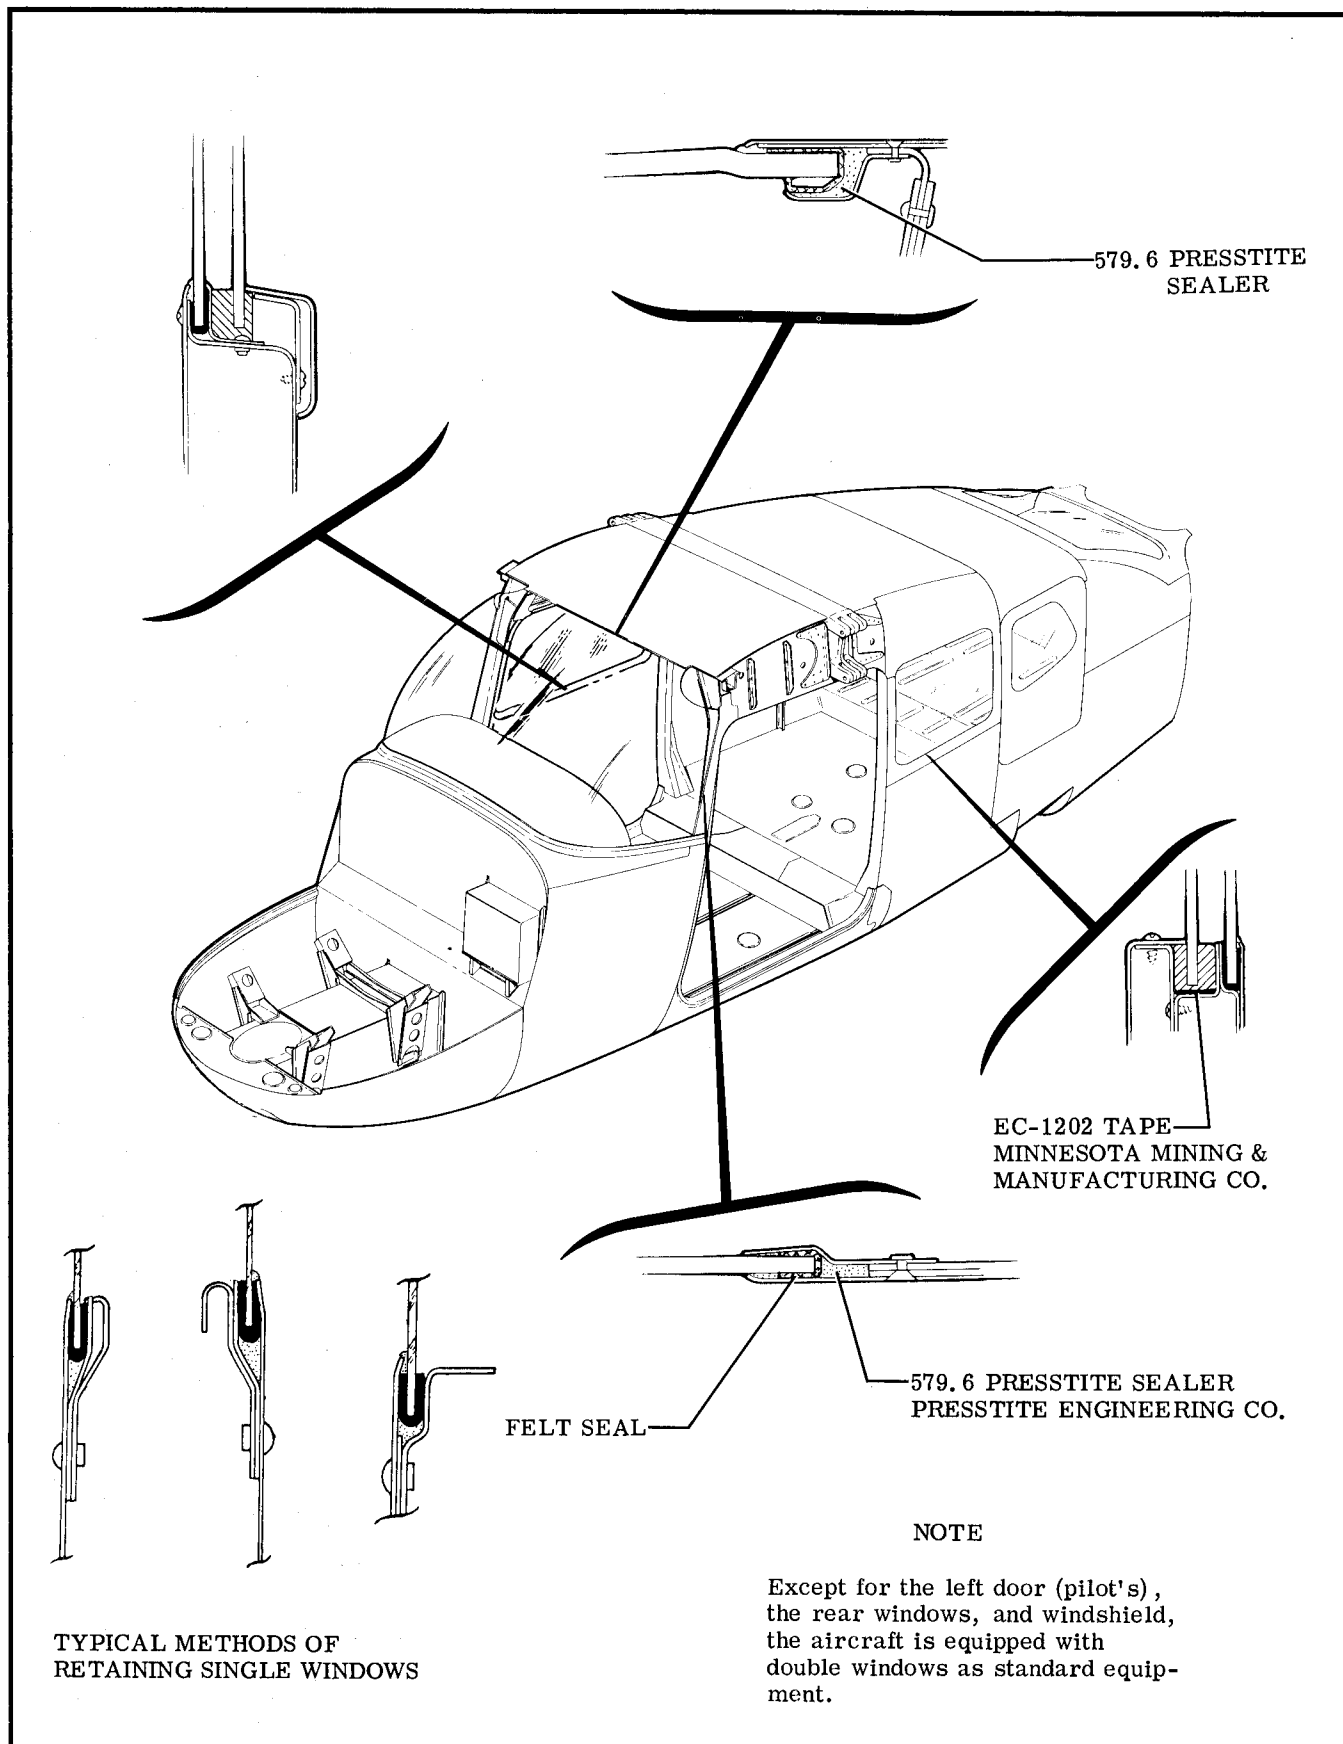

Figure 3-2. Cabin Window Retainers and Seals
3-7. WINDSHIELDS. (See figure 3-2.) Windshields are single-piece, "free-blown" acrylic plastic panels set in sealing strips and held by formed retaining strips that are secured to the fuselage by means of screws and rivets. Presstite No. 579.6 sealing compound used in conjunction with an adhesive-backed felt strip is applied to all edges of the windshield except the wing root area. The wing root fairing has a heavy felt strip that completes the windshield sealing.
**3-11. FIXED WINDOWS.** (See figure 3-2.) Fixed windows are mounted in sealing strips and sealing compound, and are held in place by various retainer strips. To replace the side windows, remove upholstery and trim panels, then drill out rivets as necessary to remove the retainer strips. Except for the left door, the rear windows, and windshield, the aircraft is equipped with double windows.